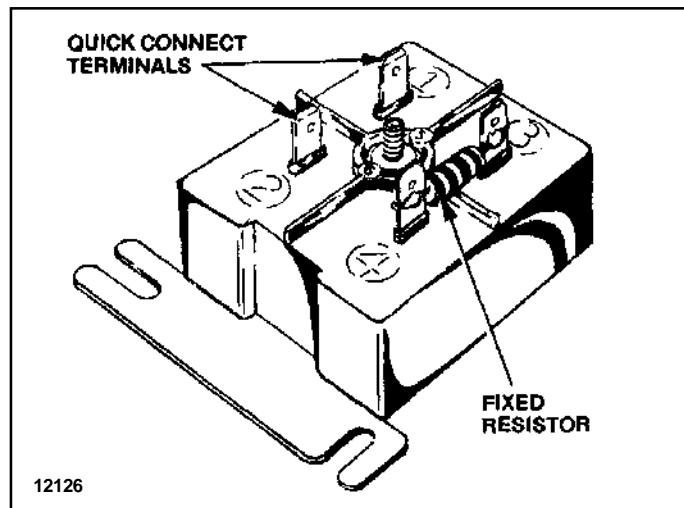

Figure 9-4. Time Delay Relay
All accelerating timers are solid state, hermetically sealed, compact units (see Figure 9-4), with fixed delay on energization. External connections are required only to terminals (1) and (2).
**b. Maintenance.** Terminals (1) and (2) of timers are connected to external circuit by means of quick connect lugs. Normal inspection would include checking to see that connecting lugs are properly seated.